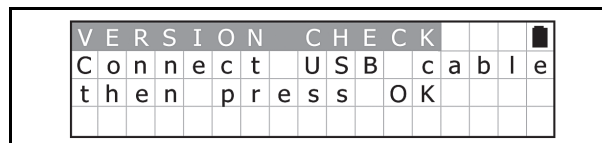

Figure 33 Standby Screen 3
3. Ensure that the LCD displays the Standby Screen shown in Figure 33.